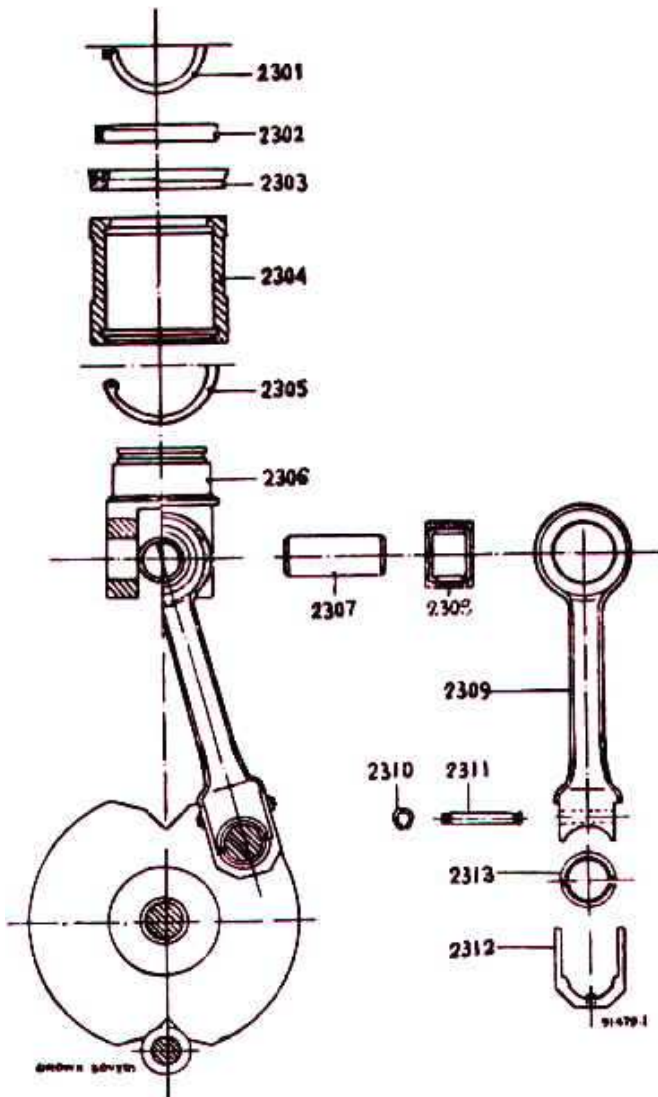

FIGURE 2.4 PISTON WITH CONNECTING ROD
- Remove and dismantle pistons and connecting rods as shown in figure 2.4
Details of figure 2.4